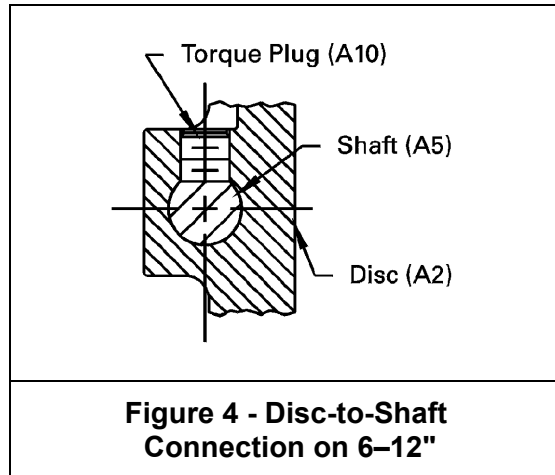

Figure 4 - Disc-to-Shaft Connection on 6–12"
- On sizes 6–12", align and center the flat on the shaft with the tapped hole in the disc. See Figure 4. On sizes 6", apply one bead of Loctite 242 along half the depth of the threads tapped hole; on sizes 8–12", apply two beads, on opposite sides. Apply one bead to the threads of the torque plug (A10) and screw the torque plug into the disc and tighten to the torque shown in Table B.